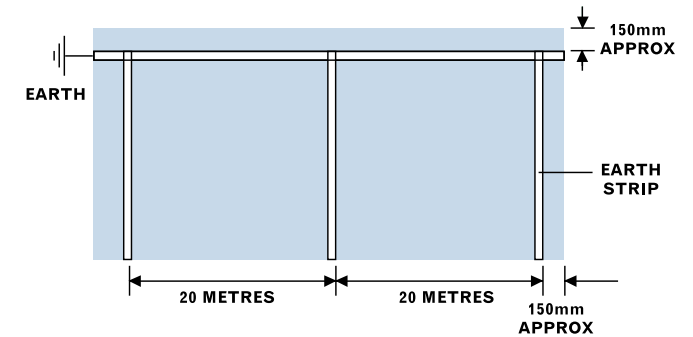

Figure 7.1 Earthing strip layout
- ▶ The earth strip is laid 150mm from one side of the room, in the same direction as the vinyl sheets are to be laid. This strip is connected to a known earth (Figure 7.1).